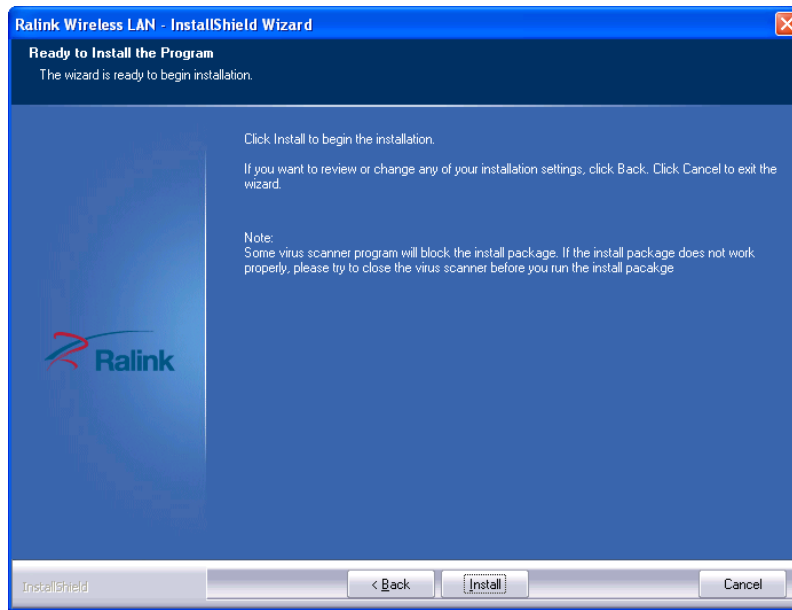

Figure 3-4: Ready to Install the Program
Step 9: The **Ready to Install the Program** screen in **Figure 3-4** appears.